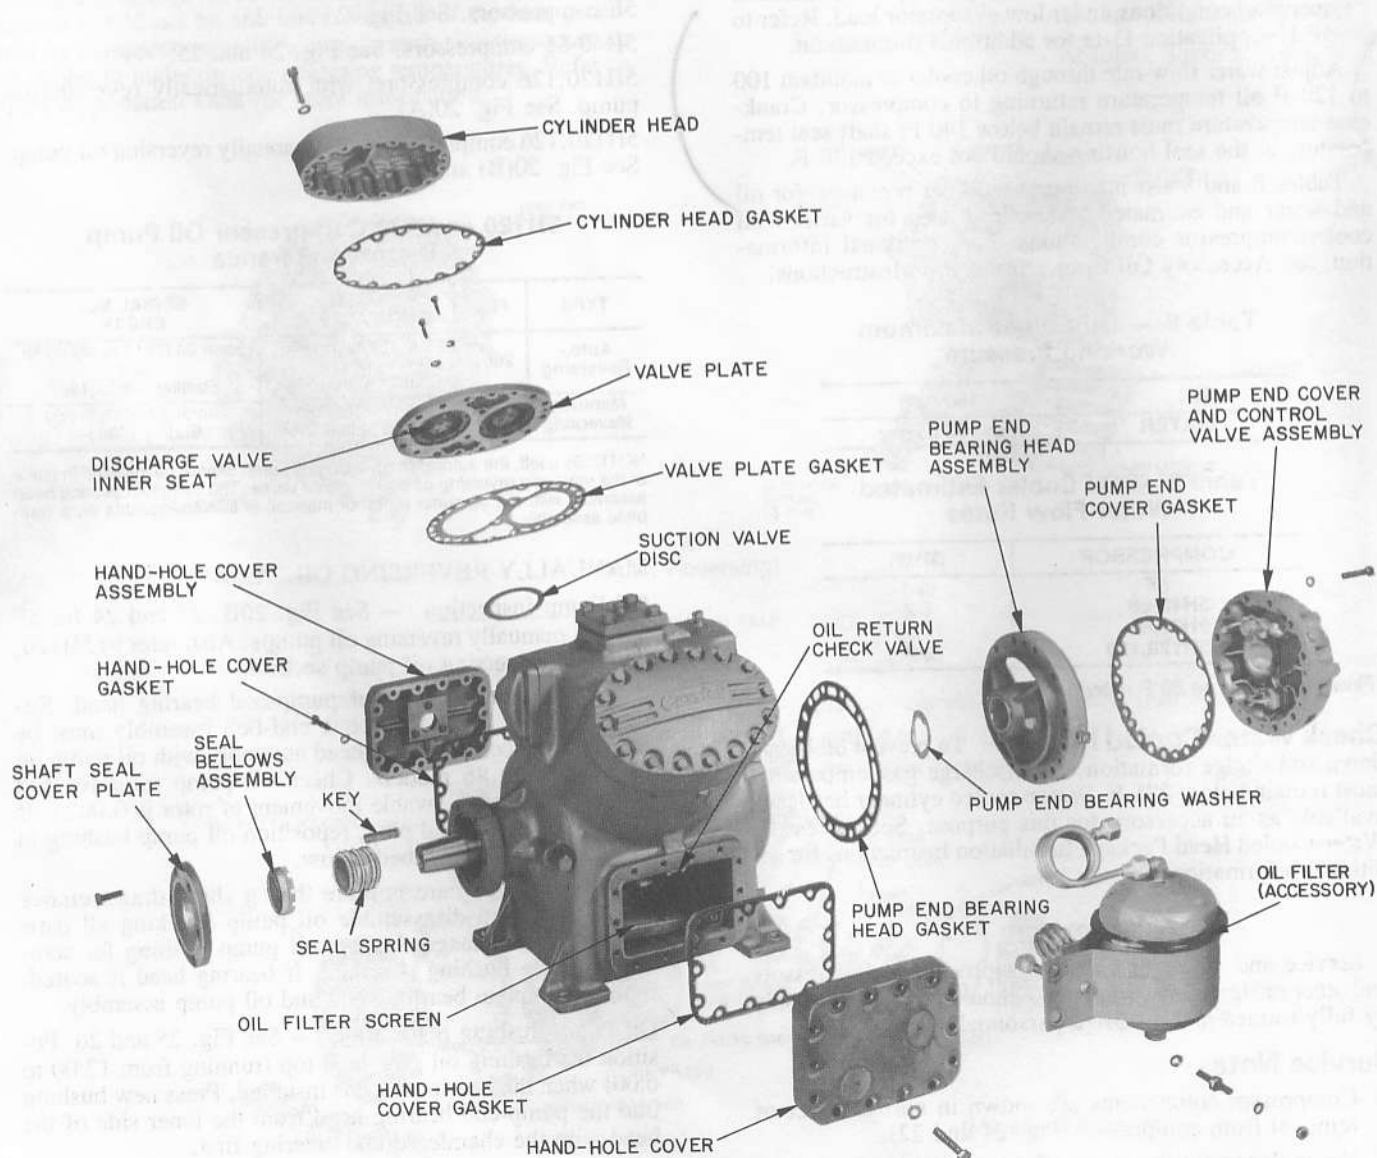

Fig. 21 — 5H Compressor External Components
- Compressor components are shown in normal order of removal from compressor (Fig. 21 and 22).